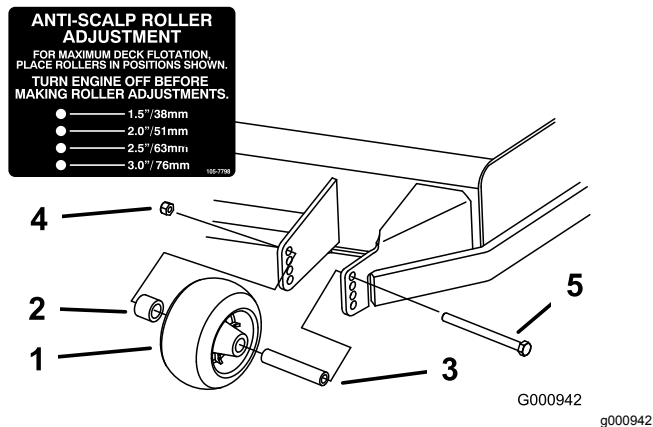
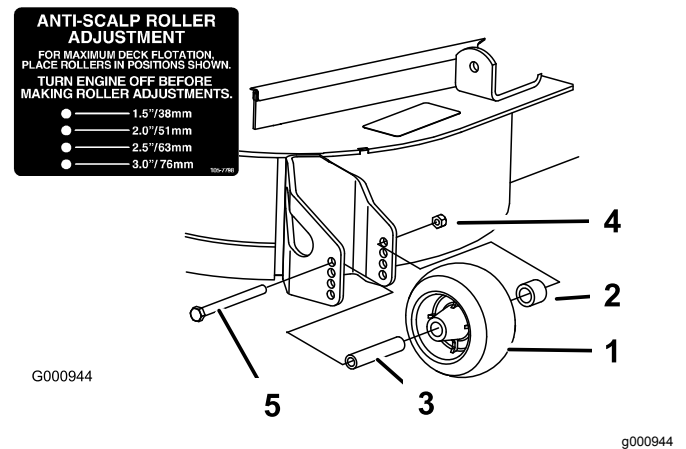
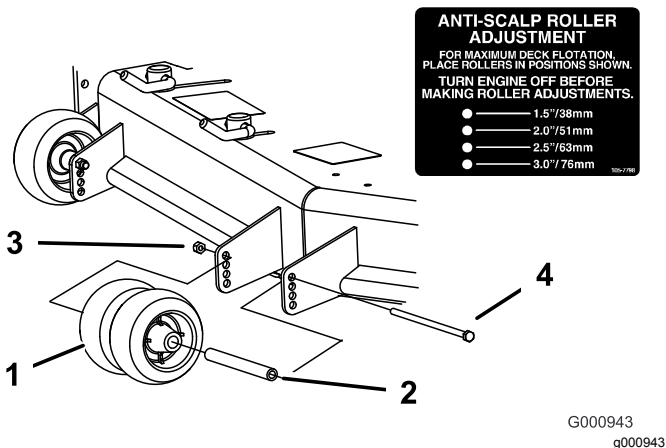

Figure 30
Figure 32
Figure 31
3. Adjust the anti-scalp rollers as shown in Figure 30, Figure 31, and Figure 32.